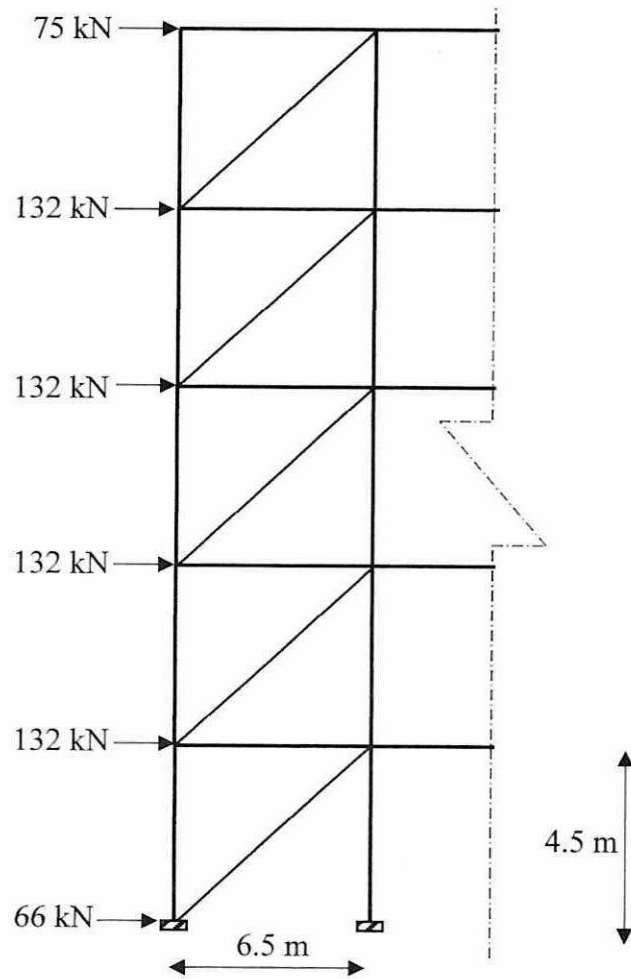

Figure Q3.1 A section view of a multi-storey building
- Q3** **Figure Q3.1** shows a section view of a multi-storey building that imposed by vertical and horizontal loads. The diagonal steel bracers with size CHS 219.1x10 are provided to improve its stability. Given: